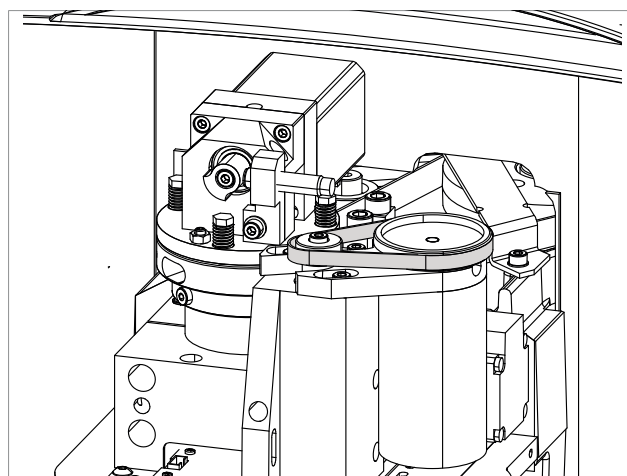

Fig. 91
- 5) Remove the worn or broken belt (Fig. 91).